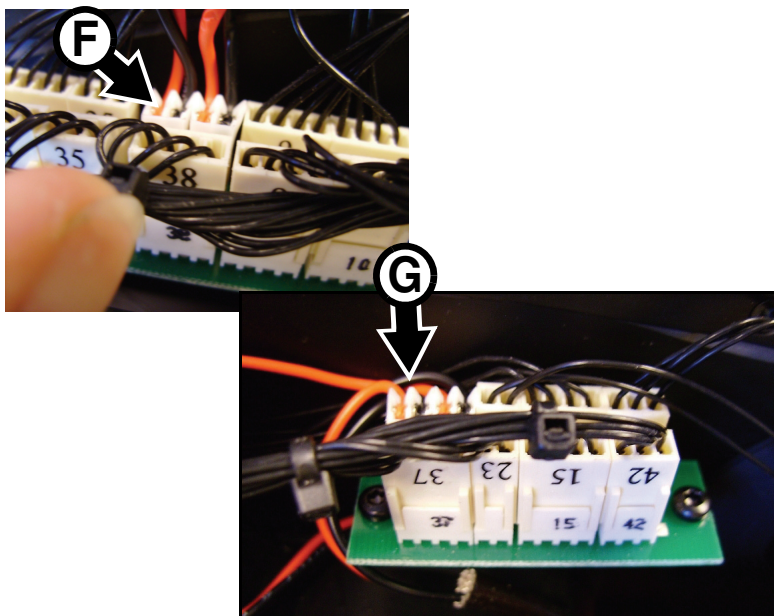

Figure 73
82. See Figure 73. Plug the leads from the lamp cooling fans (see steps 59. and 60.) into the connectors where the old lamp cooling fans were plugged in: